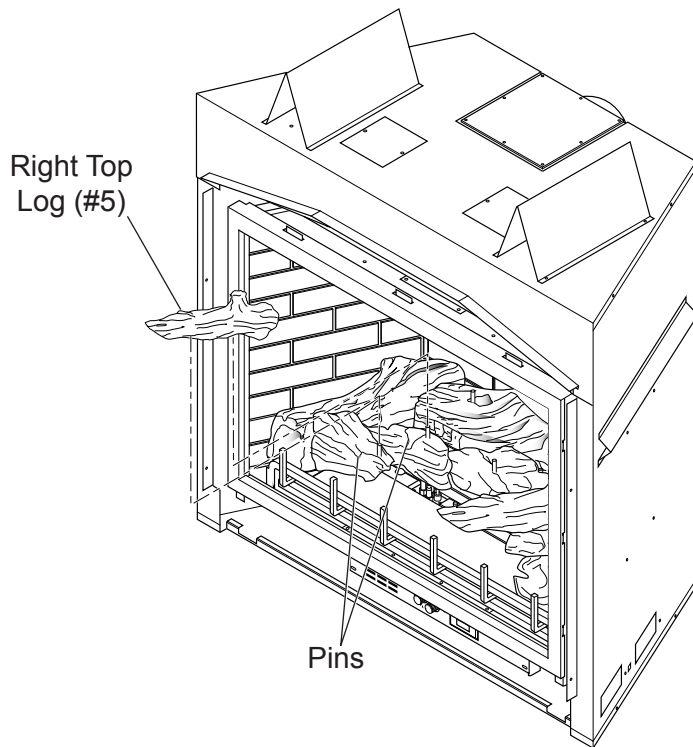

Figure 48 - Installing Right Top Log (#5)
- Place right top log (#5) on two pins on middle left log. *See Figure 48.*